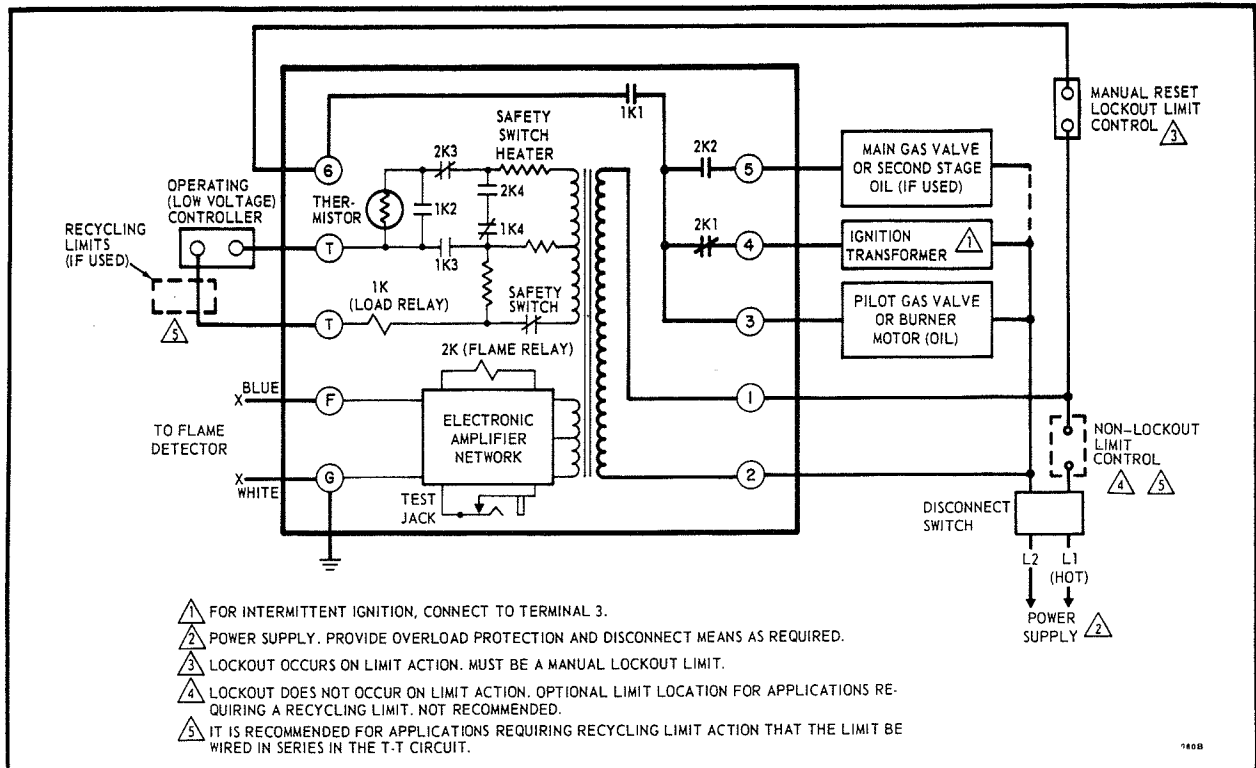

FIG. 7—INTERNAL SCHEMATIC OF THE RA890G (TYPICAL EXTERNAL CONNECTIONS INCLUDED).
This will prevent the system from cycling off the high limit and insure that troubles are noticed and corrected as soon as possible. If the limit is connected in the hot line to terminal 1 as shown in the optional hookup in Fig. 7, safety lockout will not occur. This location is for applications requiring a recycling limit. It is not recommended.
Normal control operation is summarized below. Refer to Fig. 7 for the internal schematic of the control.
- b. If voltage is zero, check the power supply line for blown fuses, open circuit, or open disconnect switch. If a non-lockout, limit control (Fig. 7) is used, check contacts for continuity.